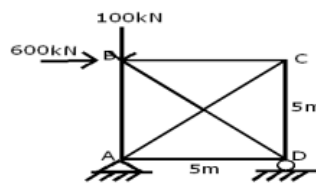

Fig.4
6. Find the forces in the members of the truss shown in Fig.4 by method of joints. [15M]